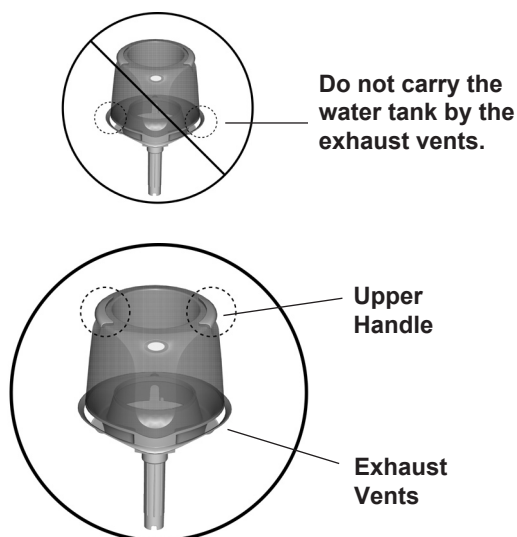

Figure 7
**NOTE:** Do not carry the Water Tank by the exhaust vents. See Figure 7.